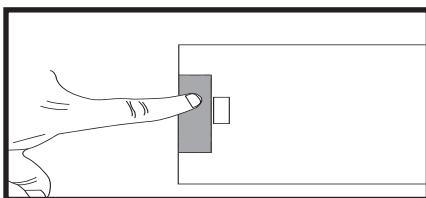

Figure 14, Reinforce Vertical Slat
Use the VERTICAL BLIND REINFORCEMENT TAPE (E) to reinforce the top of the first vertical slat before reinstallation [Fig. 14].